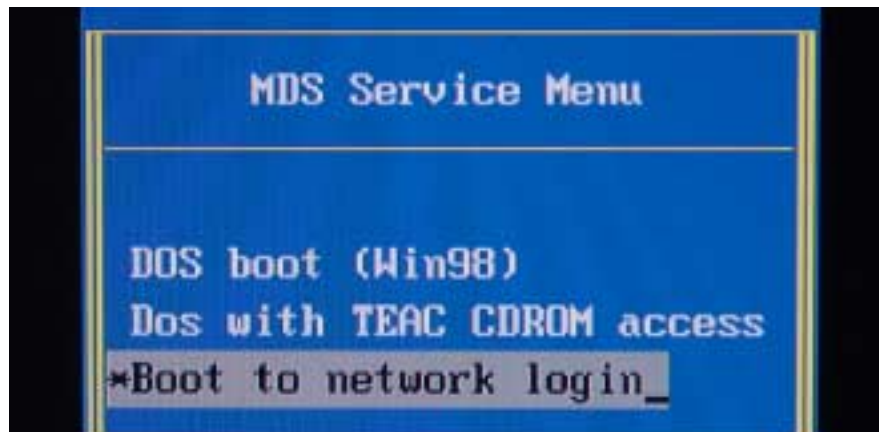

Figure 15-15 MDS Service Menu
6. Verify MDS reboots to "MDS Service Menu" (see Figure 15-15).